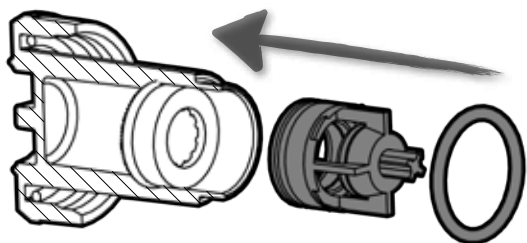
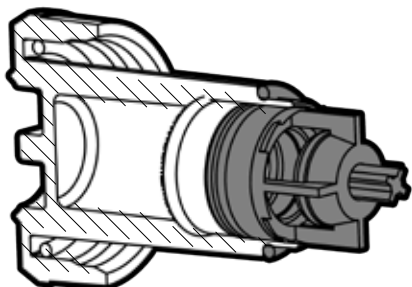

Fig. 35
Fig. 36
- 3) Insert the CHECK VALVE 19, ensuring correct orientation and that it projects from the end of the FILTER HOUSING 21, (Fig. 35) then place the O-RING on the end of the FILTER HOUSING 21 (Fig. 36)